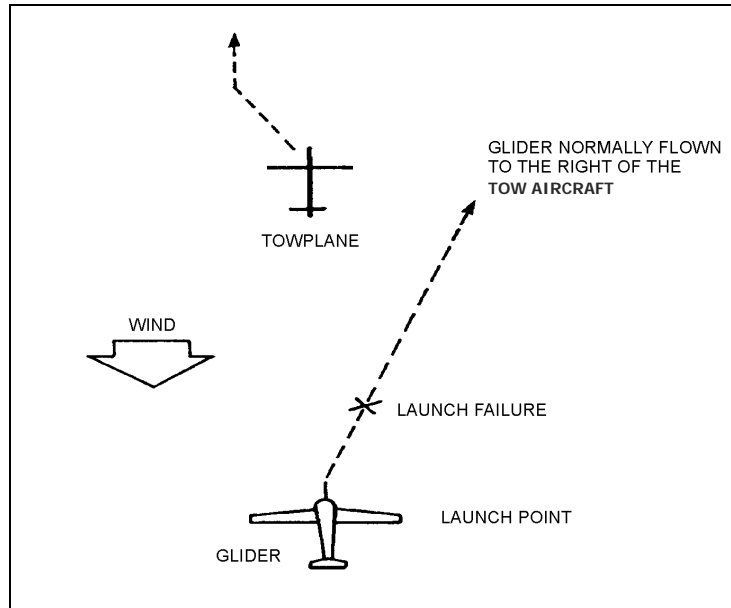

Figure 2-7-2 Launch Failure Below 200 Feet AGL
- the glider pilot should attempt to land straight ahead making minor deviations to avoid obstacles. See Figure 2-7-2;